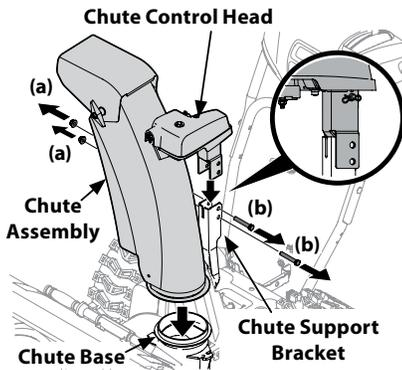

Figure 2-27
1. Remove lock nuts (a) and hex screws (b) from chute support bracket (this will require two wrenches). See Figure 2-27.
2. Place chute assembly onto chute base and chute control head onto chute support bracket. See Figure 2-27.